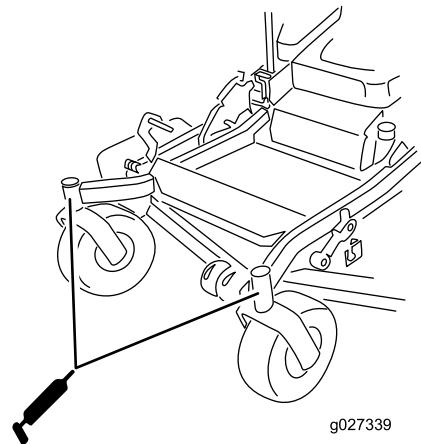

Figure 50
11. Install the hex plug and dust cap (Figure 50).
12. Grease the caster-wheel bearings (Figure 50).